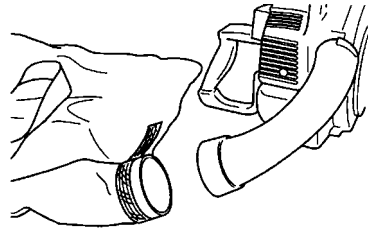

Fig.3-2
- Connect collector bag with the installed bent pipe by inserting opening of the bag onto thinner part of the pipe, then tape with the sawn strap securely. (Fig.3-2)